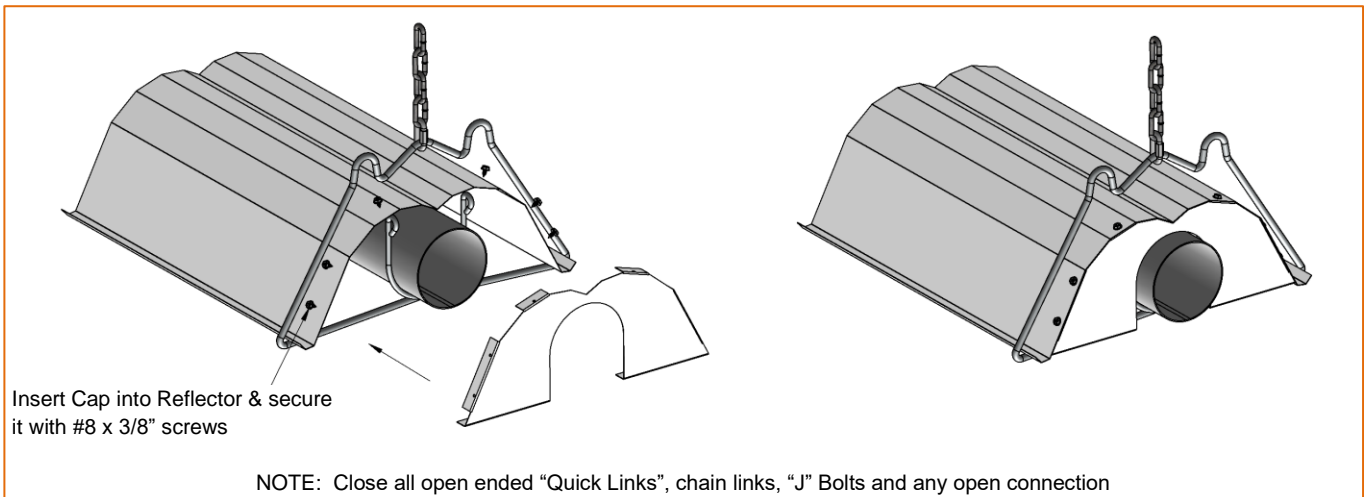

Figure 17: Reflector End Cap Installation
- Install End Cap as shown in Figure 17.